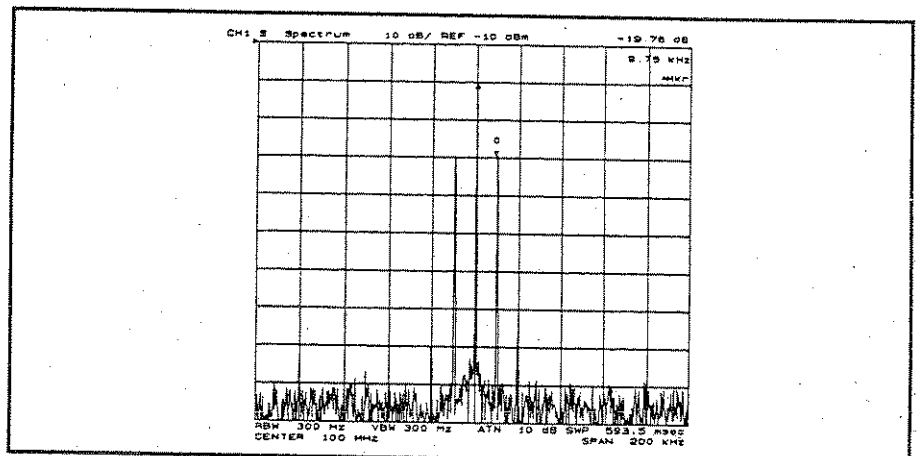

Figure 3-13. Modulating Frequency of AM Signal
4. Press **Search** SEARCH:PEAK NEXT PEAK to search for a sideband. The offset value from the carrier is displayed as the marker sweep parameter value shown in Figure 3-13. This value is the modulation frequency.
where  $\Delta Mkr$  is the  $\Delta$ marker sweep parameter value shown in Figure 3-13.